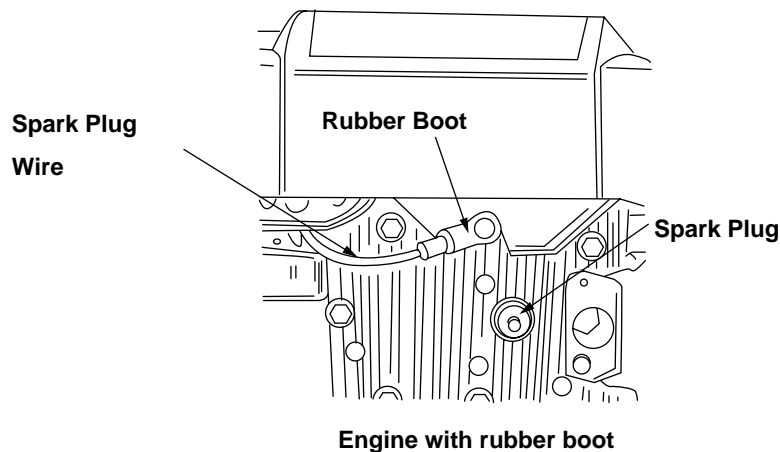

FIGURE 3
- Before setting up your lawn mower, disconnect the spark plug wire from the spark plug, and ground it against the engine. See Figure 3.